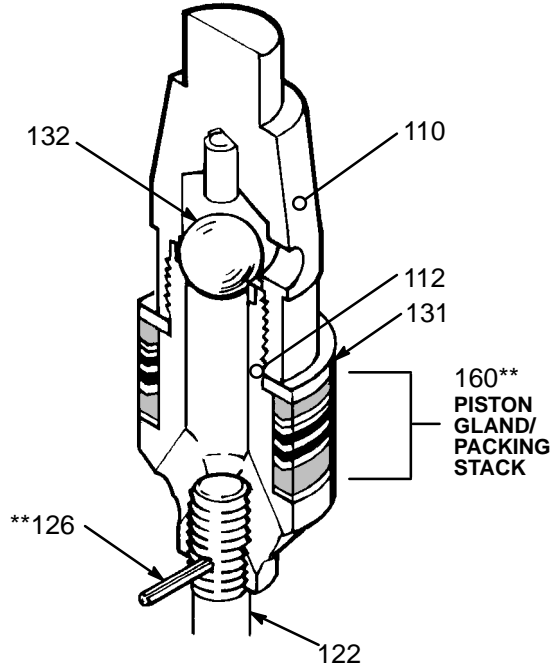
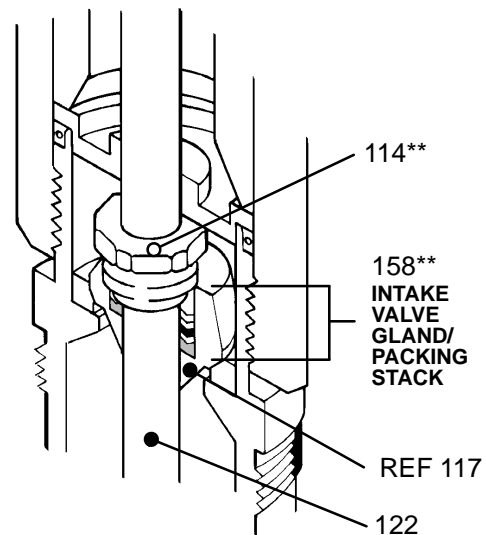

Fig 5
Fig 6
4. Slide the **assembled** gland/packing stack (160\*\*) onto the piston valve (112), *with the lips of the v-packings facing up*. Then place the backup washer (131) on top of the gland/packing stack. See Fig 5.
5. Install the piston ball (132) in the piston valve housing (110). Apply medium grade thread sealant to the threads of the piston valve (112) and housing (110). Screw the piston valve into the piston valve housing, torquing to 81–102 N.m (60–76 ft–lb). Screw the piston rod (122) into the piston valve, aligning the holes. Insert the cotter pin (126\*\*).
6. Place the pump housing (109) in the vise. Install the new o-rings (125\*\*) on the pump cylinder (111). Lubricate the cylinder and slide it into the pump housing as far as possible.
7. Slide the rod guide (113) onto the piston rod (122), with the flat side facing down.
9. Slide the **assembled** gland/packing stack (158\*\*) into the intake cylinder's packing housing (REF 117). *Be sure the lips of the v-packings are facing up*. Install the packing nut (114\*\*) and torque to 34–47 N.m (25–35 ft–lb). Slide this assembly, packing nut first, onto the piston rod (122). See Fig 6.
10. Place an o-ring (124\*\*) around the intake cylinder (117). Screw the cylinder into the pump housing (109). Torque to 129–149 N.m (94–110 ft–lb).
11. Thread the nut (120) onto the bottom of the piston rod. Install the valve plate (118), valve guide (121), priming piston (119), and the other nut (120).
12. Holding both nuts (120) with a wrench, torque the bottom nut to 54–81 N.m (40–60 ft–lb).
13. Tighten the packing nut (140). Torque the nut (136) to 54–81 N.m (40–60 ft–lb).
14. Reconnect the displacement pump (14) to the air motor (15). Reconnect the ground wire to the air motor if it was disconnected during service.